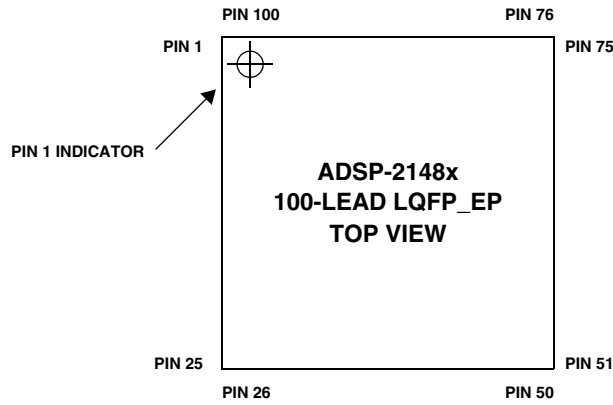
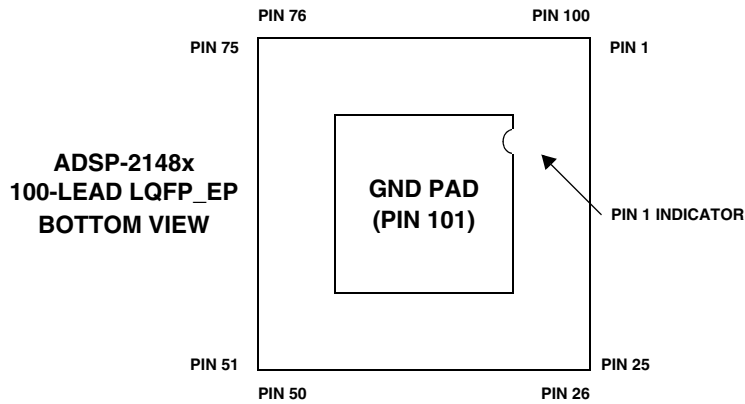

Figure 49. 100-Lead LQFP_EP Lead Configuration (Top View)
Figure 50. 100-Lead LQFP_EP Lead Configuration (Bottom View)
* Pin no. 101 is the GND supply (see Figure 49 and Figure 50) for the processor; this pad must be **robustly** connected to GND.
Figure 49 shows the top view of the 100-lead LQFP_EP pin configuration. Figure 50 shows the bottom view of the 100-lead LQFP_EP lead configuration.